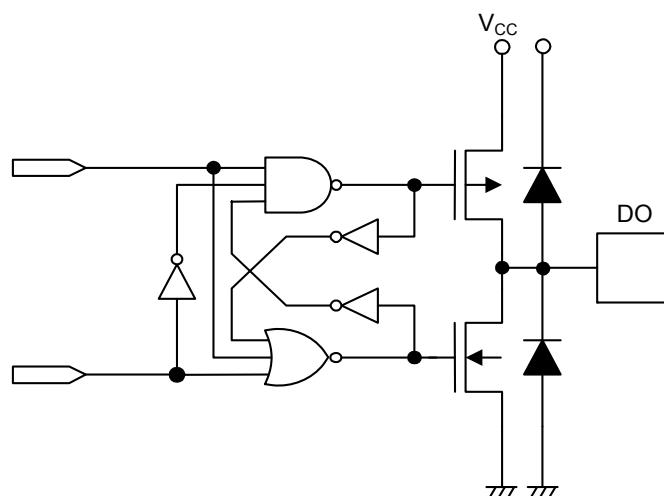

Figure 22 DO Pin
**Figure 22** shows the equivalent circuit of the output pin. This pin has the tri-state output of "H" / "L" / "High-Z".